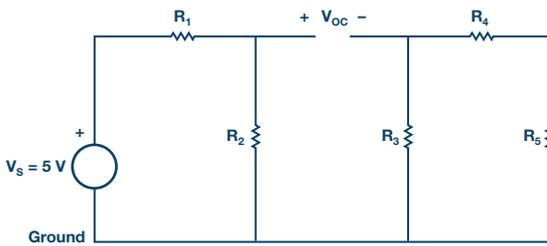

Figure 4. Measuring the Thévenin voltage.
- ▶ c) Find V_{TH} : Remove the load resistance, R_L , and measure the open circuit voltage, V_{OC} , across the terminals. Use the voltmeter tool by connecting channel CA to the positive node of V_{OC} and connect channel CB to the negative node. V_{OC} will be the difference between CA volts and CB volts. This is equal to V_{TH} . See Figure 4.